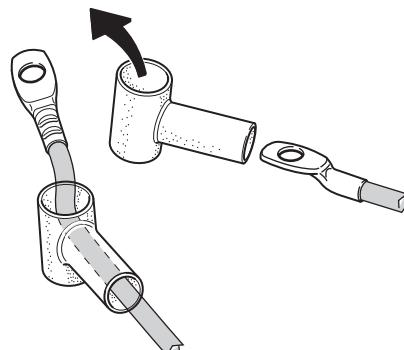

Fig. 49
- Feed cable connections through protective rubber caps (Fig. 49).